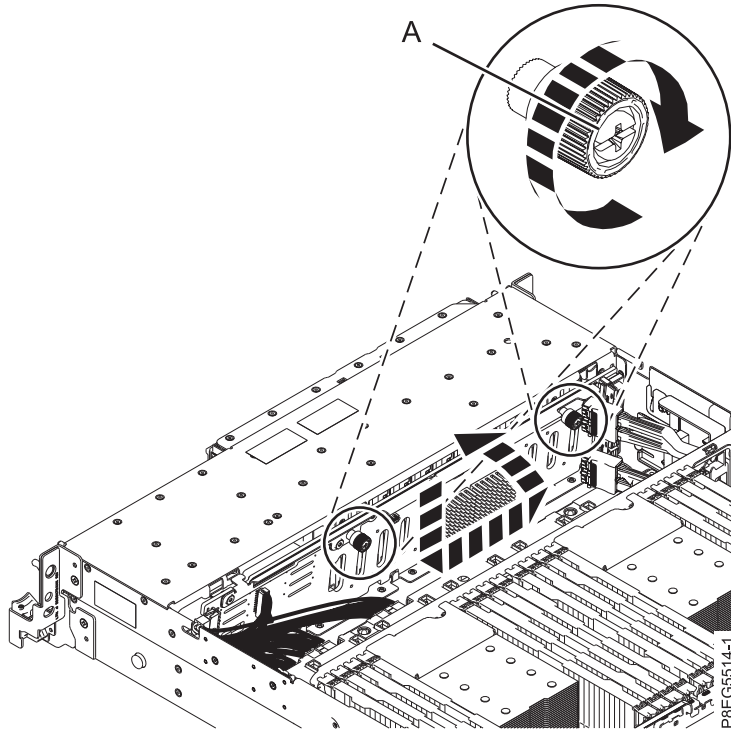

Figure 19. Fastening the disk drive backplane
4. Complete the backplane installation now. Use the ledge at the top of the disk drive backplane and face towards the front of the system. Tilt the backplane towards the rear and lower it down into the chassis. Align the backplane cutouts with the tabs in the chassis to insert it into the system. Shift the backplane slightly to secure it in place, as is shown in Figure 19 on page 21.